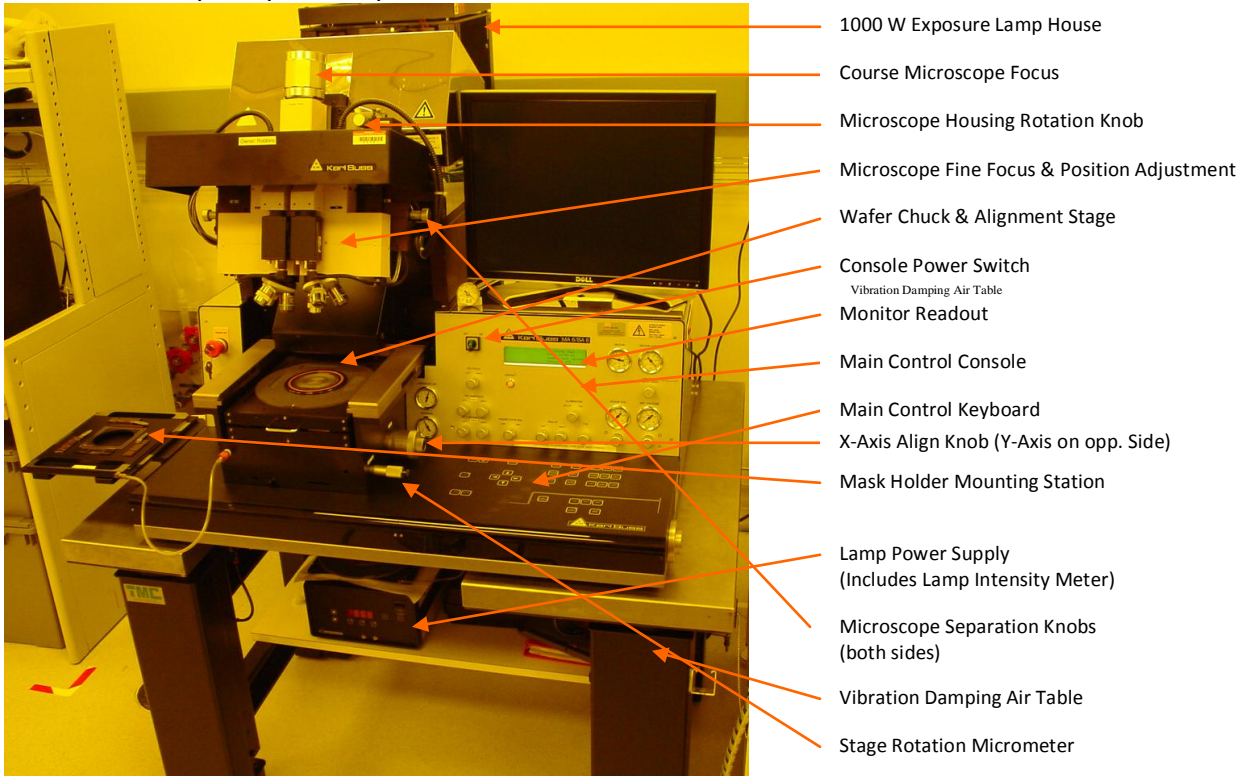
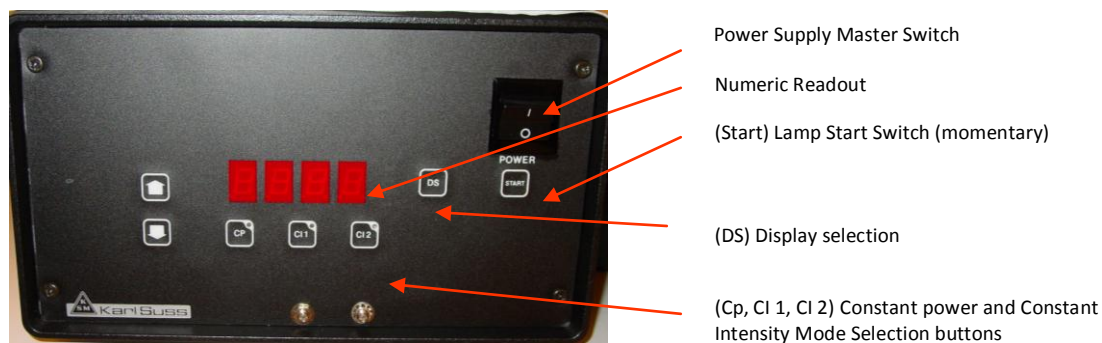

Figure 1. Karl Suss Mask Aligner – major parts.
Figure 5. Karl Suss Exposure Lamp power supply face showing control switches and readout.
The system consists of a high pressure 1000 Watt Mercury Arc Lamp as the UV source, an optical system to present the exposure light to the wafer, a wafer stage and z-motor to bring the wafer into contact with the mask, a microscope system to measure the alignment and a mechanical mechanism to position the wafer into alignment with the mask. This is controlled by a microprocessor and appropriate buttons and knobs for the operator to perform the alignment and exposure in an efficient manner. Figure 1 shows an annotated photo of the aligner with major components identified.
The alignment microscope assembly is mounted on an upper frame with an xy stage in order to align the microscope to the location of the alignment markers. The microscope stage is driven around by the arrow buttons located in the mid-left side of the table top membrane keyboard. The coarse focus is set by the large knob at the top of the microscope assembly, and the assembly is rotated by a small knob on the upper right side of the scope housing as depicted in Figure 1. This stage and microscope mechanism lifts upwards via a hinge and air piston to allow access to the stage and to mask loading operations.
The lamp that supplies the Ultra Violet (UV) exposure energy for the tool is located in a large black finned box behind the microscope assembly, (Figure 1). It contains a 1000 W high pressure mercury arc lamp bulb that is powered by a power supply box located under the table on a shelf, (Figure 5). The lamp is started by a 30,000 V pulse that initiates the arc. NOTE: The main console tool electronics must be turned off before starting the lamp to avoid damage from the startup pulse. It can be turned back on immediately after the lamp fires. There are several meters and timers located inside the lamp power supply box. We will discuss these in the following instructions.
- Turn the coarse focus knob on top of the optics column until the images come into approximate focus. Note the image on the monitor screen. (Figure 1)
- Set the position of each microscope to the spacing desired using the separation knobs. (Figure 1)
- Quite probably, you will have to rotate the microscope stage with the knob on top of the microscope assembly in order to have the markers on the mask appear in both microscopes. (microscope housing rotation knob visible in Figure 1 at the top of the assembly)